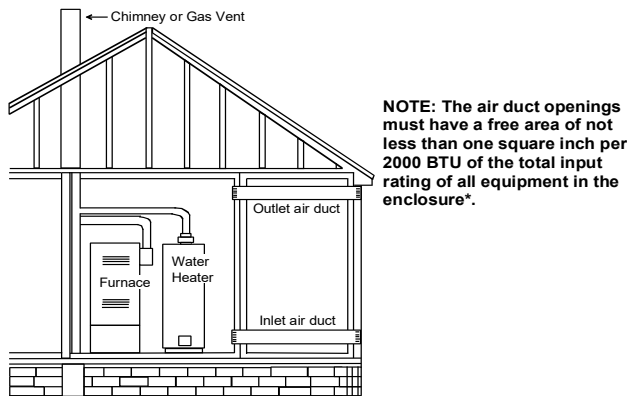

Figure A.9.3.3.1(2) All Combustion Air From Outdoors through Horizontal Ducts.
**9.3.3.2\* One Permanent Opening Method.** One permanent openings, commencing within 12 in. (300 mm) of the top of the enclosure, shall be provided. The appliance shall have clearances of at least 1 in. (25 mm) from the sides and back and 6 in. (150 mm) from the front of the appliance. The opening shall directly communicate with the outdoors or shall communicate through a vertical or horizontal duct to the outdoors or spaces that freely communicate with the outdoors (see Figure A.9.3.3.2) and shall have a minimum free area of the following: